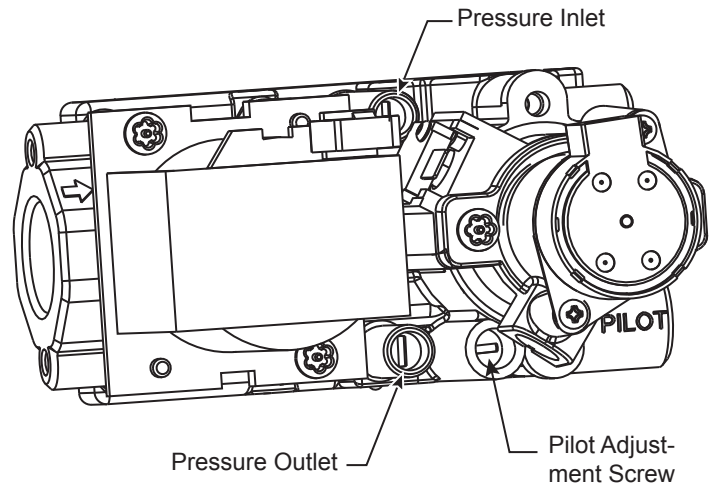

Figure 47 -
4. To check gas pressures at valve, turn captured screw counter clockwise 2 or 3 turns and then place tubing to pressure gauge over test point. Turn unit to high. *Figure 47.* After taking pressure reading, be sure and turn captured screw clockwise firmly to reseal. Do not over torque. Check test points for gas leaks.